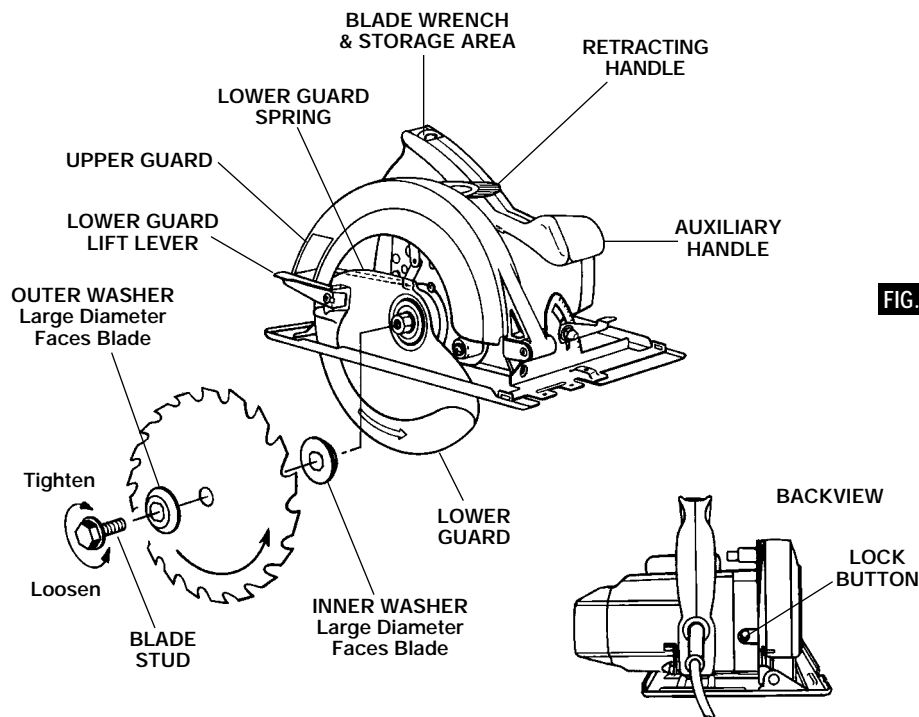

FIG. 2
1. Press the lock button and turn wrench until lock button engages. Saw shaft is now locked. Continue to depress button, turn wrench counter-clockwise and remove BLADE STUD and OUTER WASHER (Fig. 2).